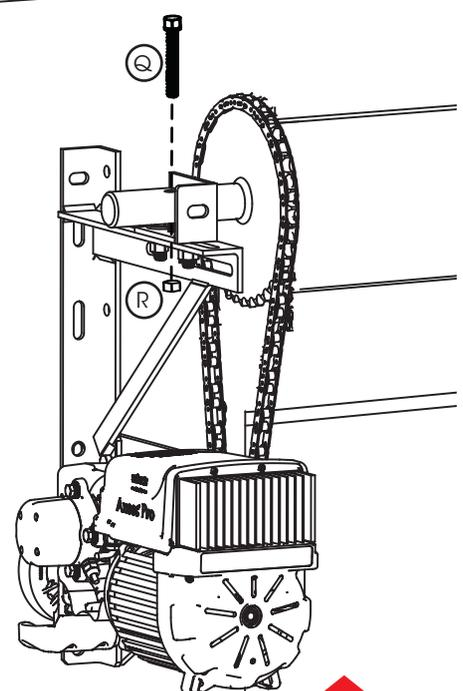

Fig: 2.7.2
- Secure the spindle by passing 12mm axle bolt  through the spindle and the angle iron support bracket at both ends. Secure bolts with nuts  provided as per Fig 2.7.2.